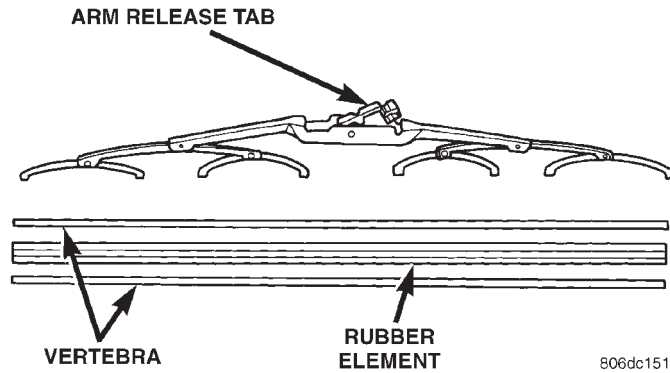
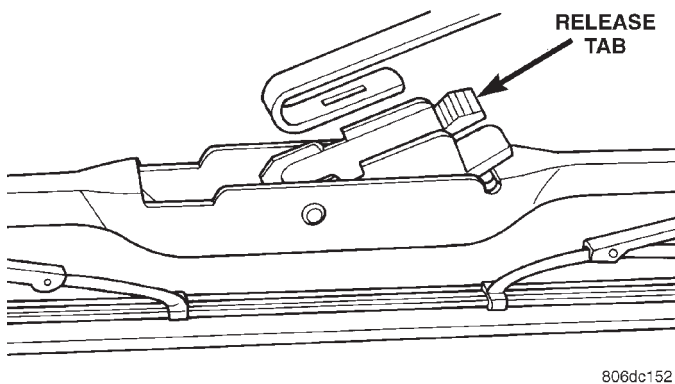

Fig. 14 Wiper Blade and Element
Fig. 15 Remove Blade from Arm
- (1) Turn wiper switch ON, position blades to a convenient place on the windshield by turning the ignition switch ON and OFF. Turn ignition switch OFF, when blade is in the desirable position.
- (2) Lift wiper arm to raise blade off glass.
- (3) Remove blade assembly from arm by pushing release tab under arm tip and slide blade away from arm tip (Fig. 14) and (Fig. 15).
(1) Lift wiper arm to raise blade off the windshield.
(2) Remove blade assembly from arm by pushing release tab under arm tip and slide blade away from arm tip (Fig. 14) and (Fig. 15). Gently place wiper arm tip on windshield.